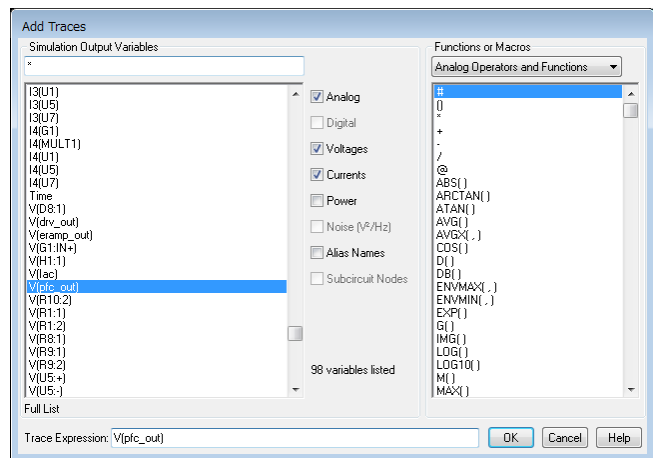

Figure 5.6 Add Traces dialog box
2. Then, the Add Traces dialog box shown in Figure 5.6 appears. Select traces to be added to a selected plot. To view a voltage waveform, select $V(\text{trace_name})$. To view a current waveform, select $I(\text{device_name})$. See Figure 5.6.